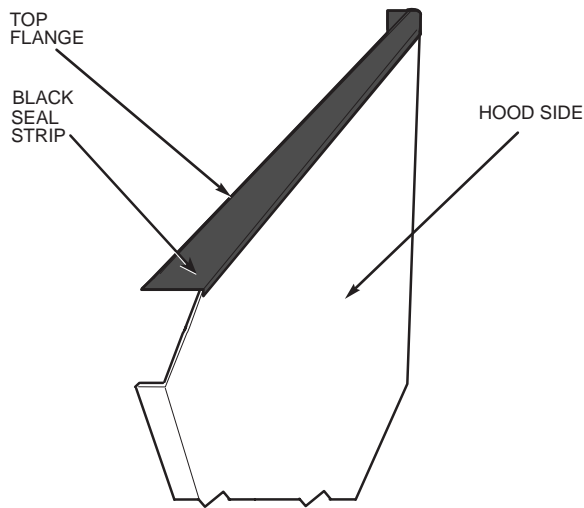

Fig. 23 — Adding Seal Strip to Top of Hood Sides
- Apply black seal strip (provided in package) to outside top-edge of hood sides. Wrap seal strip over edge to cover top flange (4 hood sides). Make sure seal strip covers screw holes. Allow strip to overhang 1/8-in. past the end opposite the mounting flange. See Fig. 23.